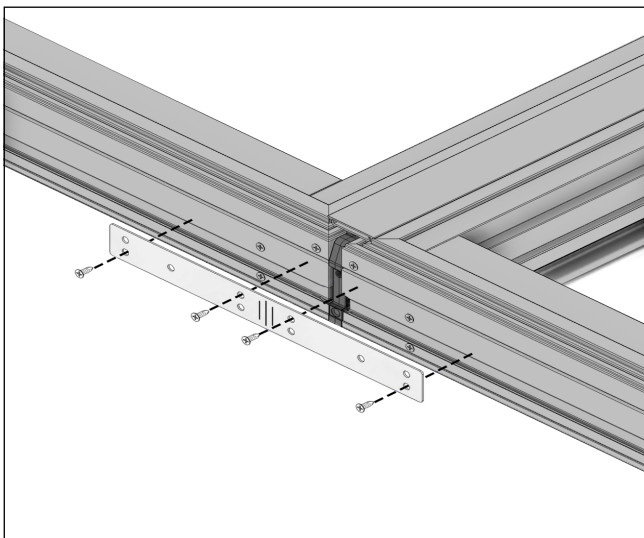

Figure 46
2. Remove all shipping straps from mull joints. See Figure 46.